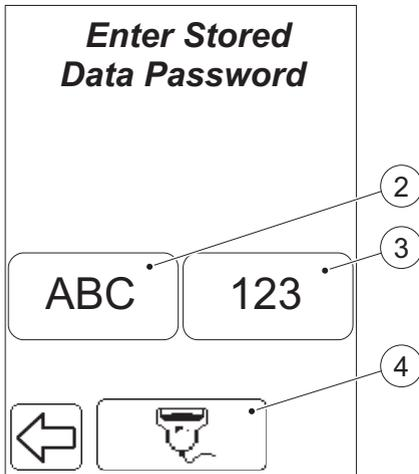
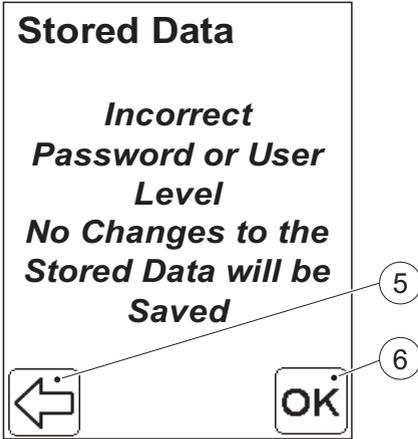
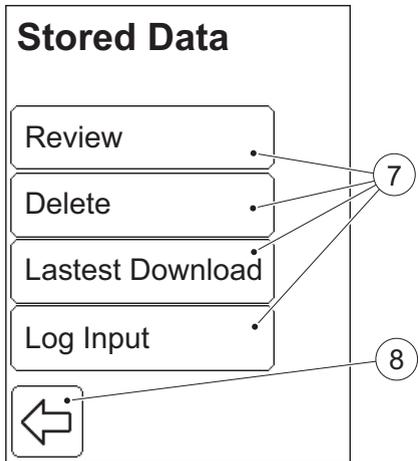

FIGURE 9-2
FIGURE 9-3
FIGURE 9-4
a) In the Main Menu, press the Stored Data button (1).
b) If the entry requirement for an Operator ID is set to "Not Used" (see *4 Settings*) FIGURE 9-2 will be displayed, as this is a password protected function.
If the operator's user level does not permit access to the Stored Data (see *Figure 4-22*), FIGURE 9-3 will be displayed.
If the operator's user level permits access to the Stored Data, FIGURE 9-4 will be displayed.
- c) Enter the Password (default value is “0000”) for protected functions, either directly on the Display via the Text mode (2) and Numeric mode (3) buttons, or with the Barcode Scanner via the Barcode Scanner button (4).
- d) If the incorrect password is entered, *FIGURE 9-3* will be displayed. If the correct password is entered *FIGURE 9-4* will be displayed.
e) Pressing the Previous image button returns the user to *FIGURE 9-2* and allows entry of the correct password. By pressing the Confirm button Stored Data can be viewed, but not changed. *FIGURE 9-4* will be displayed.
When the Review button is pressed in the Stored Data menu (see *FIGURE 9-4*), the following options are displayed: